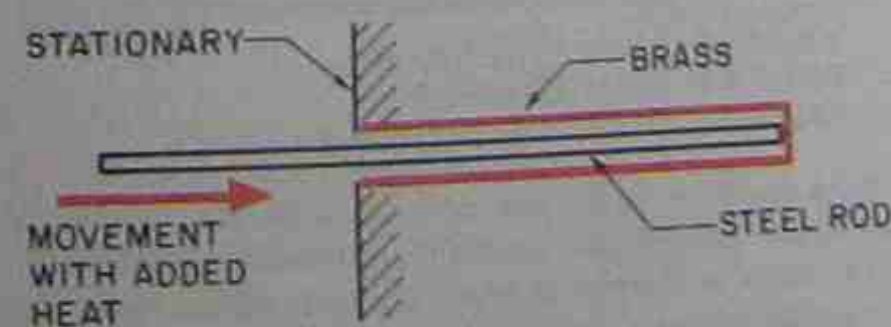

Figure 12-9. Rod and tube.
**Rod and Tube.** The *rod and tube* is another type of control that uses two unlike metals and the difference in thermal expansion. The rod and tube can be described more accurately as the rod in tube. It has an outer tube of metal with a high expansion rate and an internal rod of metal with a low expansion rate, Figure 12-9. This control has been used for years in the residential gas water heater. The tube is inserted into the tank and gives very accurate sensing of the water temperature. As the tank water temperature changes, the tube pushes the rod and opens or closes the gas